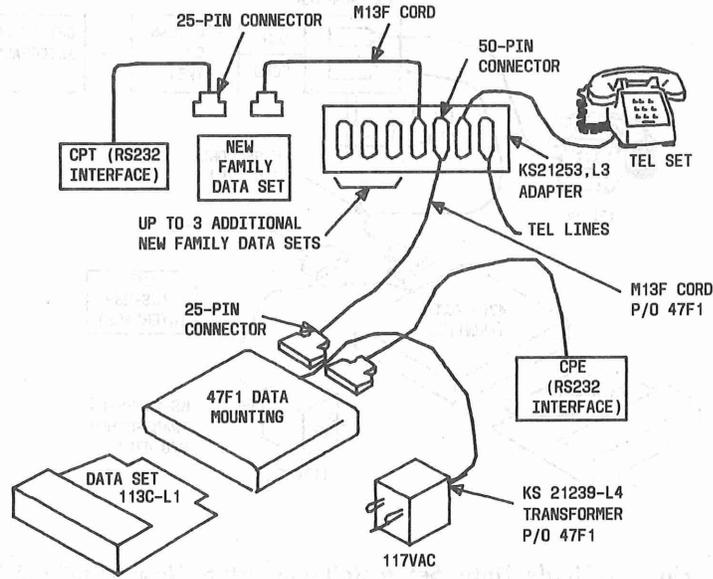

Fig. 6—DS 113C-L1/2 Sharing Telephone Set With up to Five Other New Family Data Sets
- A maximum of five data sets in an individual data mounting sharing a single telephone set via a KS-21253-L3 adapter (Fig. 6).